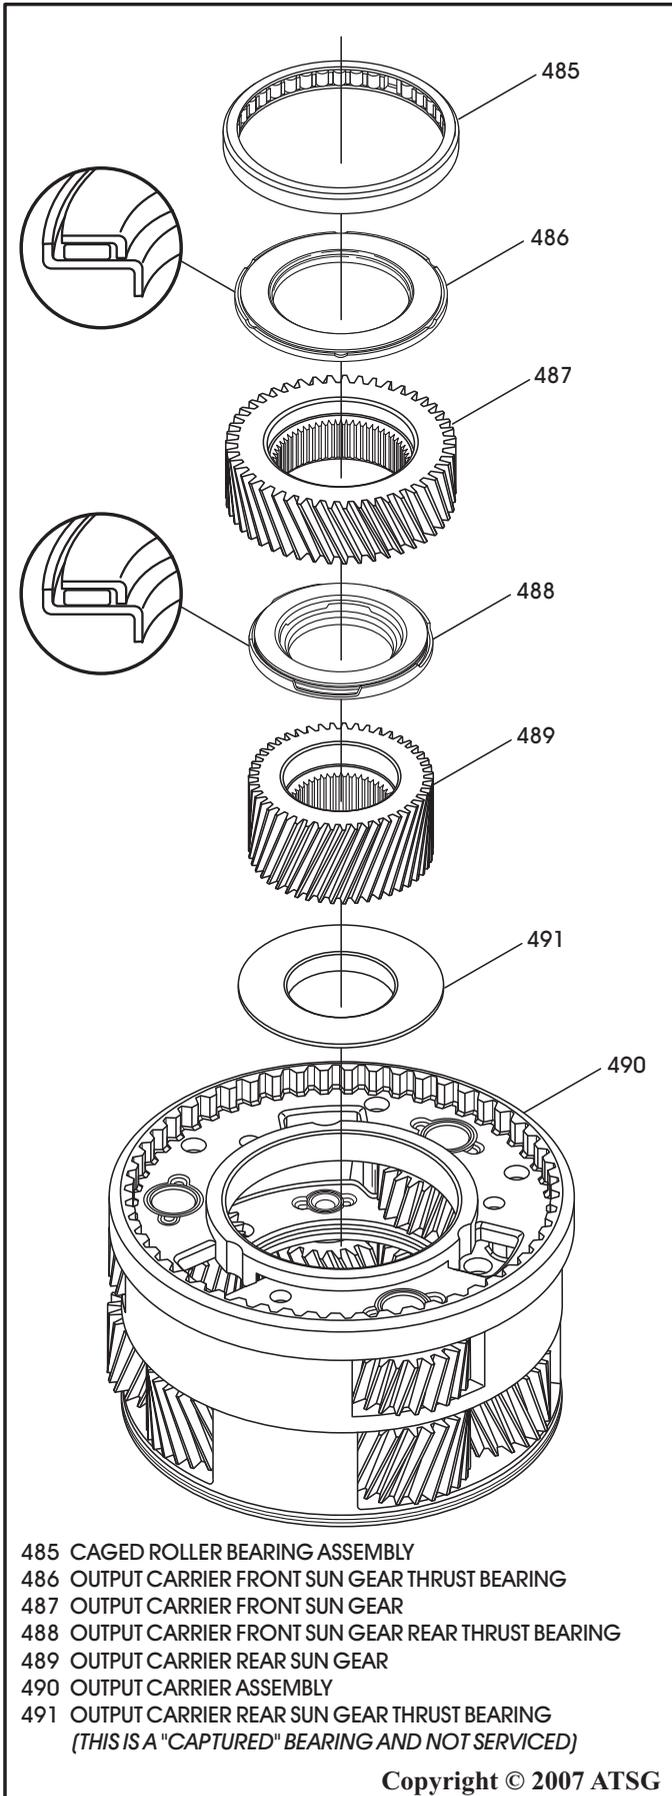
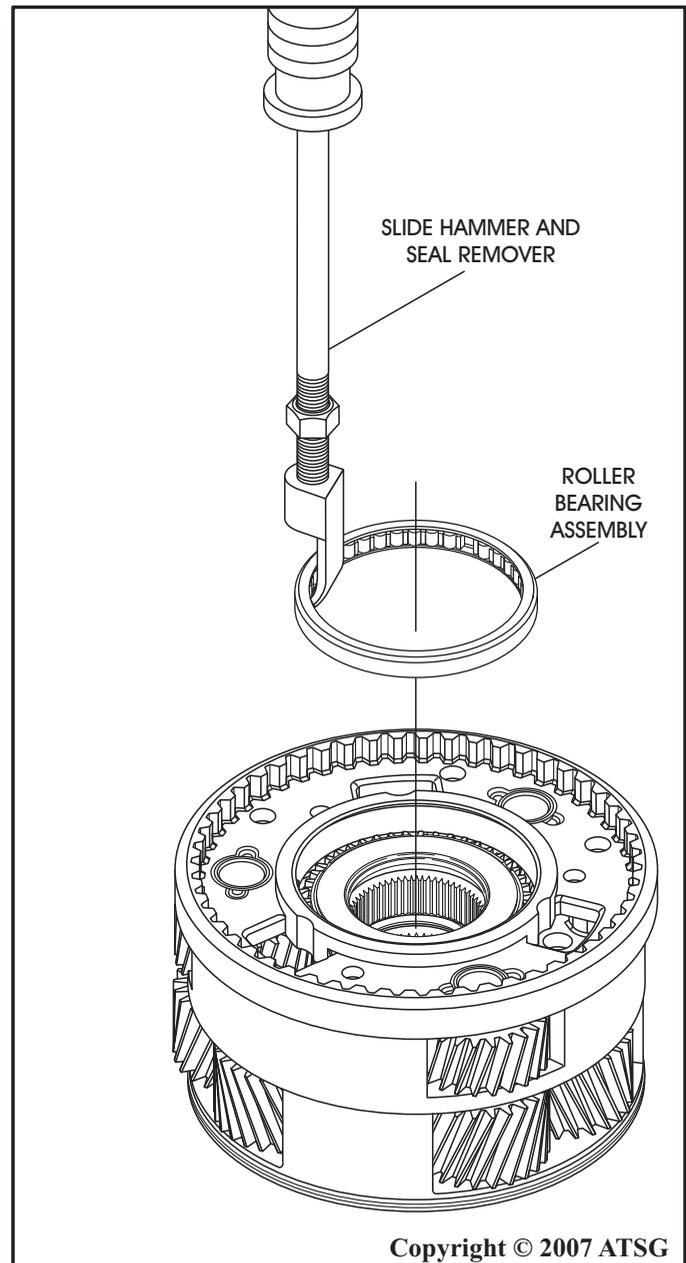

Figure 124
Figure 125
5. Disassemble the rear planetary carrier using Figure 124 as a guide.
6. Remove and discard the center support roller bearing using a slide hammer, as shown in Figure 125.
*Note: Always install new roller bearing (485).*
7. After bearing removal, remove parts, as shown in Figure 124.
*Note: The last bearing is a captured bearing and is not serviced. If this bearing (491) is damaged, it will require a carrier.*